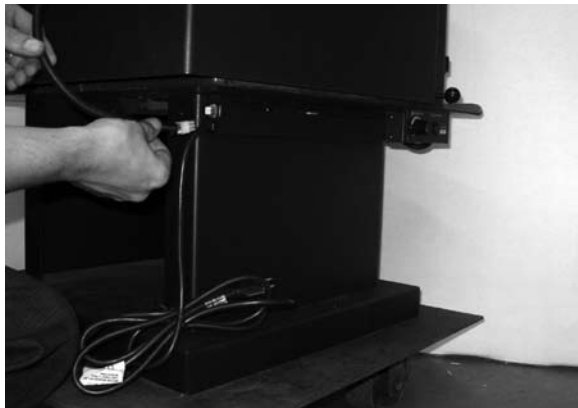

Figure 24
Step 10. Connect the wire harness from blower to female connector on rear of snap switch bracket. See **Figure 24**.